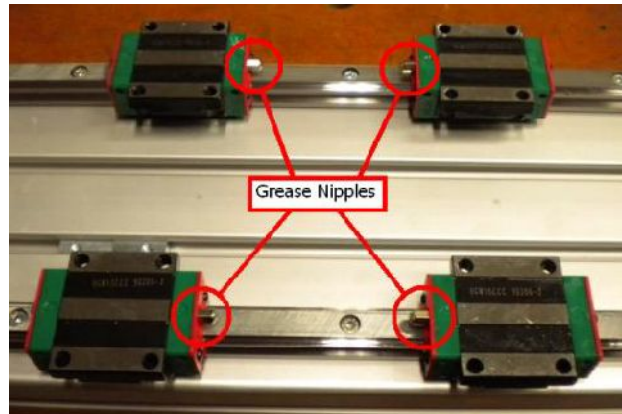

Figure 3.9: Orientation of the Hiwin carriages: text aligned and grease nipples facing each other
- Next, place the remaining three Hiwin carriage on the rails as shown in figure 3.9: